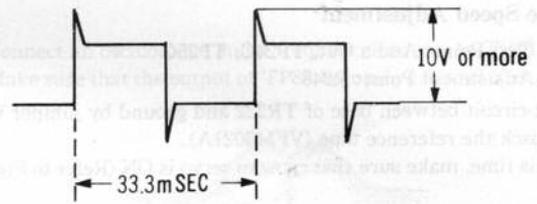

Fig. 8
3. Make sure that the waveform of P21-5 connector becomes as shown in Fig. 8.